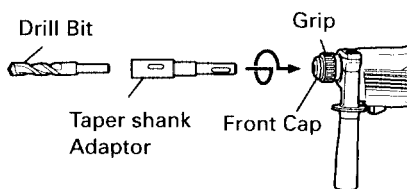
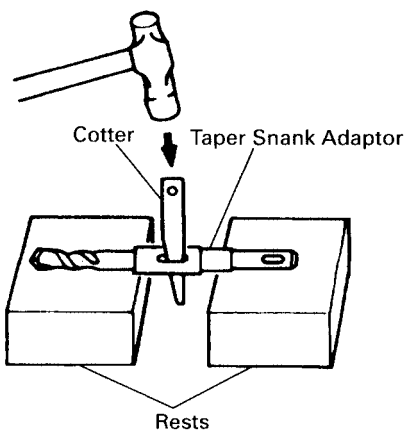

Fig. 15
Fig. 16
- (1) Mount the taper shank adaptor to the rotary hammer. (Fig. 15)
- (2) Mount the drill bit (taper shank) to the taper shank adaptor. (Fig. 15)
- (3) Turn the switch ON, and drill a hole in prescribed depth.
- (4) To remove the drill bit (taper shank), insert the cotter into the slot of the taper shank adaptor and strike the head of the cotter with a manual hammer supporting on the rests. (Fig. 16)